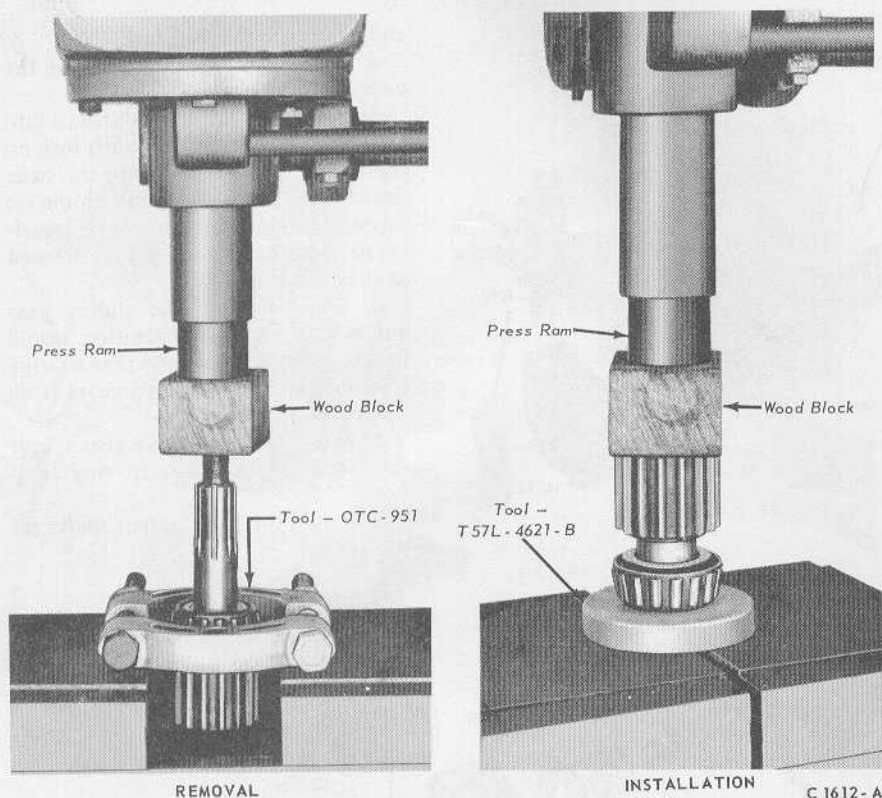

FIG. 14—Replacing Output Shaft Inner Bearing
7. Remove the inner bearing from the output shaft with the tool shown in Fig. 14.
8. Press the shaft onto the inner bearing with the tool shown in Fig. 14.